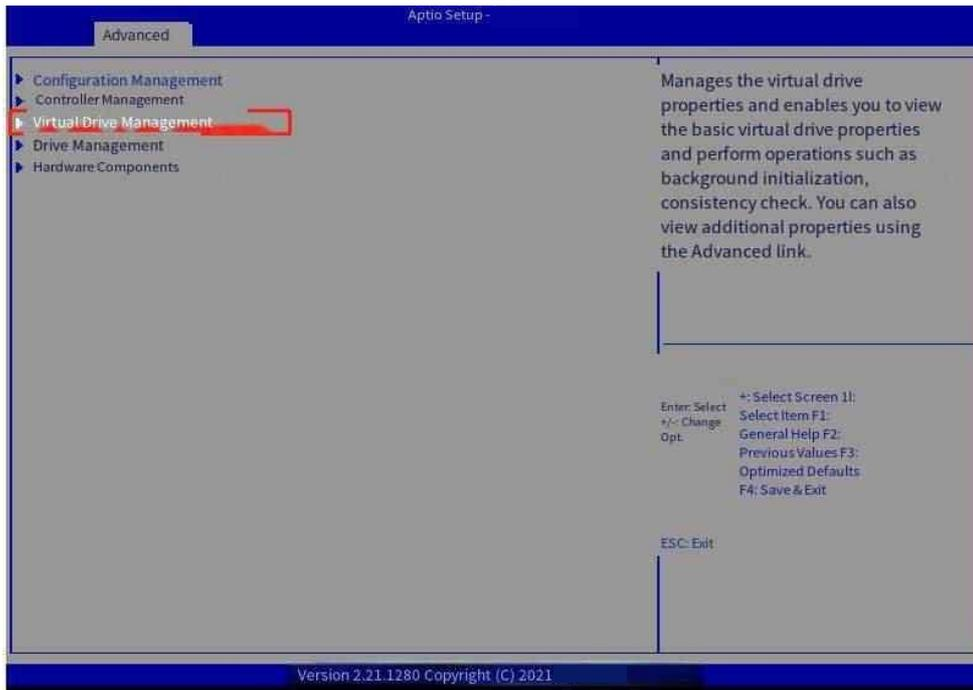

Figure 7-42 Main RAID screen
Step 1: On the home screen, select Main Menu and press Enter, select Virtual Drive Management (Figure 7-42) :